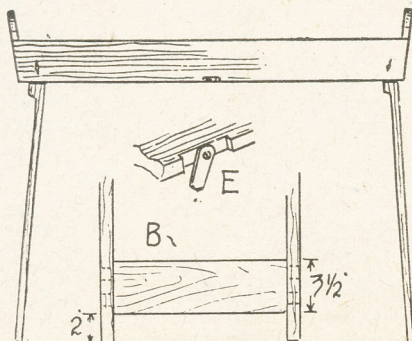

Fig. 1—Side view and details of fixing
The legs are cut to length and the ends trimmed to semi-circles, with  $\frac{1}{2}$  in. radius. Holes for the fixing screws are bored in the centres of the semi-circles. These legs are fixed to the sides, inside of course, at the place indicated at (C) in Fig. 3, so they, when pulled down, splay out slightly. Note particularly that the cut-away parts of each leg face the same way, and are not paired. This will be apparent in Fig. 1. Fit the left side legs first, then the correct way to fit the right ones will be seen at once. Any error here will simply result in the legs not folding together properly.
This rail is shown in the inset sketch (B) in Fig. 1. Cut the rails from  $\frac{1}{4}$  in. or  $\frac{3}{8}$  in. wood, to the correct length, measured between the sides of tray, underneath. The ends are cut to form tenons, 1 in. long and  $\frac{3}{4}$  in. apart, and the legs mortised to suit. Glue the rails in and refit the legs to the tray. This completes the job, except finishing.
To keep the legs up after folding, a half button can be employed, as at detail (E) (Fig. 1). These are screwed to the under edges of the tray sides, underneath, of course, and in the centre. A slot should be cut for each, just deep enough to sink the half-button level, and allow the tray to stand firm.